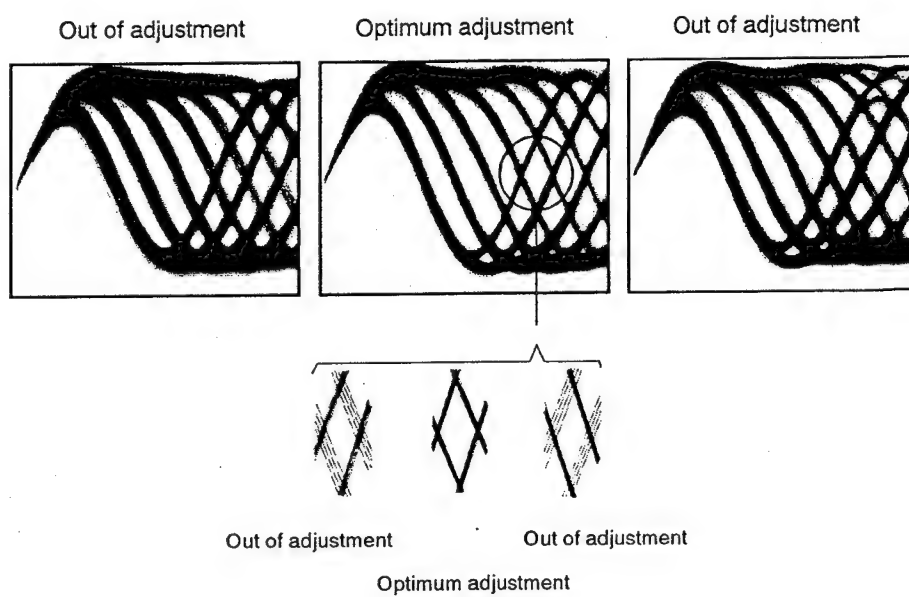

Figure 5 Eye Pattern
3. Next, adjust the tangential tilt adjustment screw with a Phillips screwdriver so that the eye pattern (the diamond shape at the center of the RF signal) can be seen the most clearly (Figure 5).